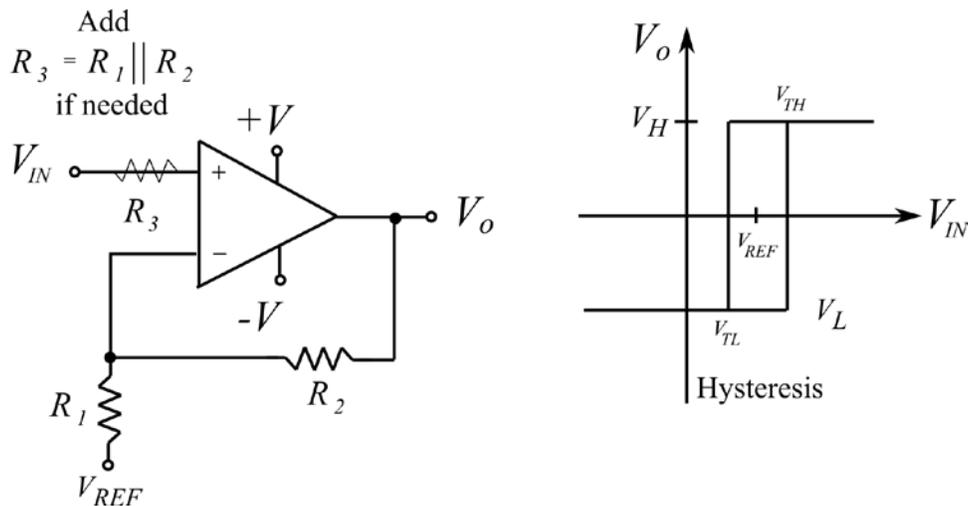

Figure 3: The inverting Schmitt Trigger and its transfer characteristic.
One way to minimize this problem is to apply a small amount of positive feedback to “reinforce” the switching decision. This circuit can be configured for either an inverting or non-inverting output, and is called the **Schmitt Trigger**. Figure 3 shows the inverting Schmitt trigger and its transfer characteristic. The design equations can be found in your textbook.
6. Slightly change the input voltage (adjusted by the potentiometer) and measure the values of V_{TH} and V_{TL} and **sketch the Hysteresis of the circuit as in Figure 3.**